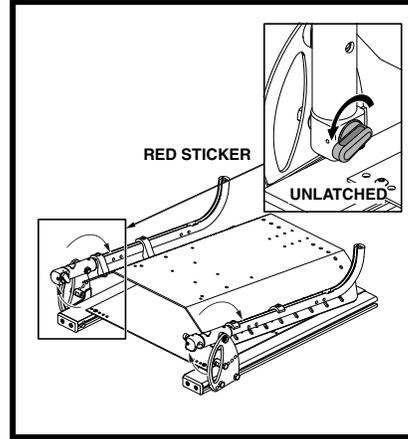

Figure 6. Flip-forward Back Canes (Unlatched)
1. Rotate the release lever on both back canes toward the rear of the seat to unlatch the back canes. See **figure 6**.